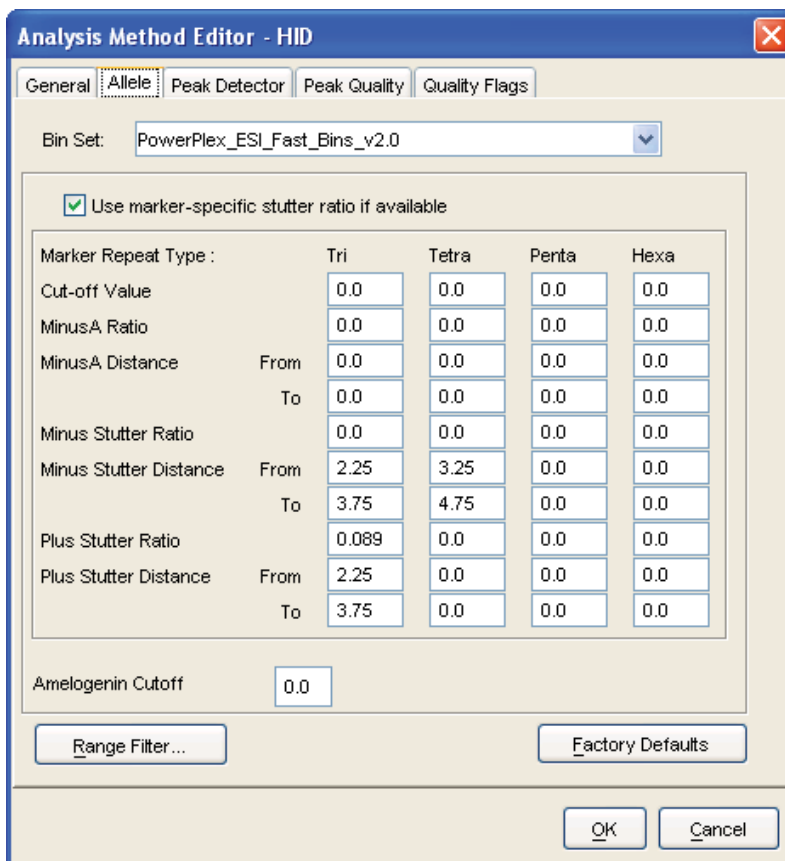

Figure 18. The GeneMapper® ID 'Allele' tab.
6. Select the 'Allele' tab (Figure 18).
9. Enter the values shown in Figure 18 for proper filtering of stutter peaks when using the PowerPlex® ESI 17 Fast System. For an explanation of the proper usage and effects of these settings, refer to the Applied Biosystems user bulletin titled *"Installation Procedures and New Features for GeneMapper ID Software 3.2"*.